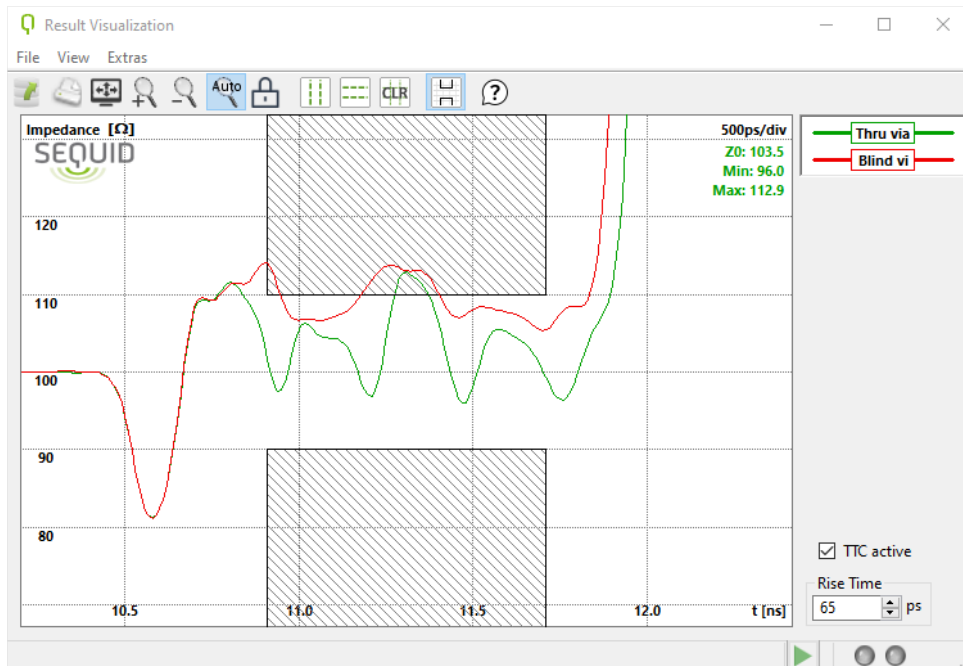

Figure 5: Result visualization of impedance measurements
- It is highly recommended to activate (D)TTC in order to achieve the highest possible accuracy (see chapter 5).
- The results of the impedance measurements are displayed in the *Result Visualization Window* (see Fig. 5). The impedance is displayed vs. traveling time, complying with the time axis in the *Oscilloscope Window*. The tolerance mask can be defined in the *Impedance Measurement Properties Window* (for more details read section 6.1.3).